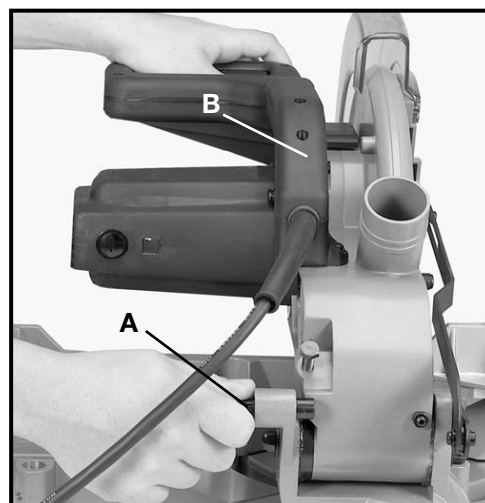

Fig. 4
1. Pull out cuttinghead lockpin (A) Fig. 4, and move the cuttinghead (B) to the up position.